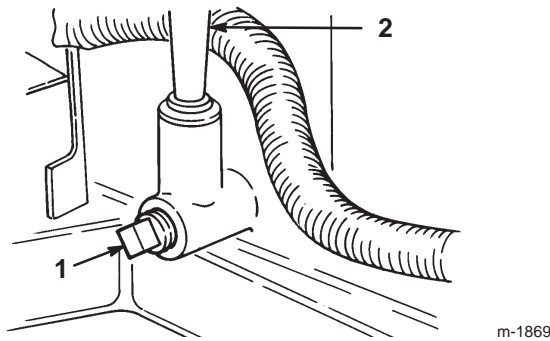

Figure 15
- Place a drain pan below the oil dipstick/fill tube and remove the drain plug (Fig. 15).